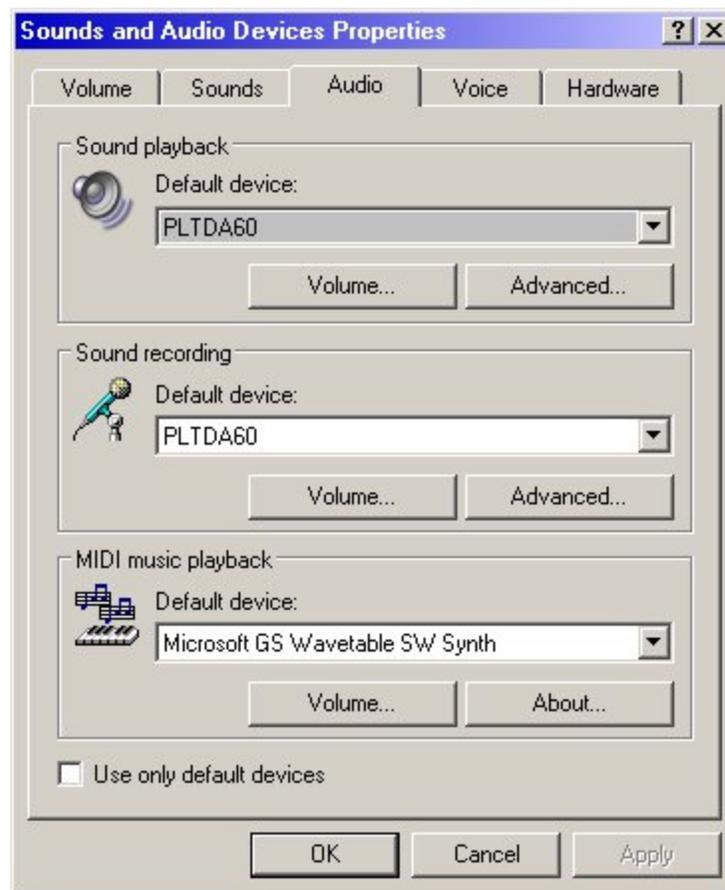

Figure 272. Appearance of the Sound and Audio Devices Properties, Audio tab
1. Open the Control Panel (Start Menu and then Settings). From the Control Panel, select the Sounds and Audio Devices icon. When the window appears, click on the Audio tab. A window similar to Figure 272 should appear.
2. The Sound playback default device should be “PLTDA60” as seen in Figure 272. The Sound recording default device should also be “PLTDA60”.